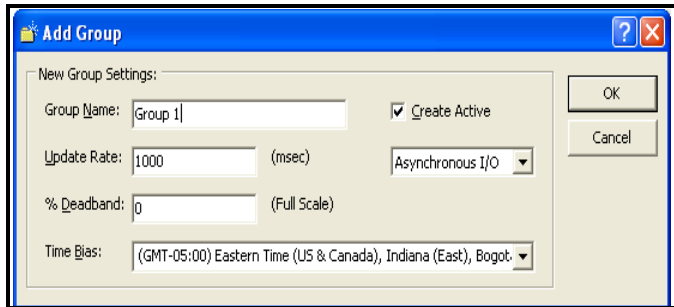

Figure B-13: The Add Group Window
- b. Click on the Add Group button, or right-click on the server and click Add Group. In either case, the Add Group window appears (shown in Figure B-13 below).